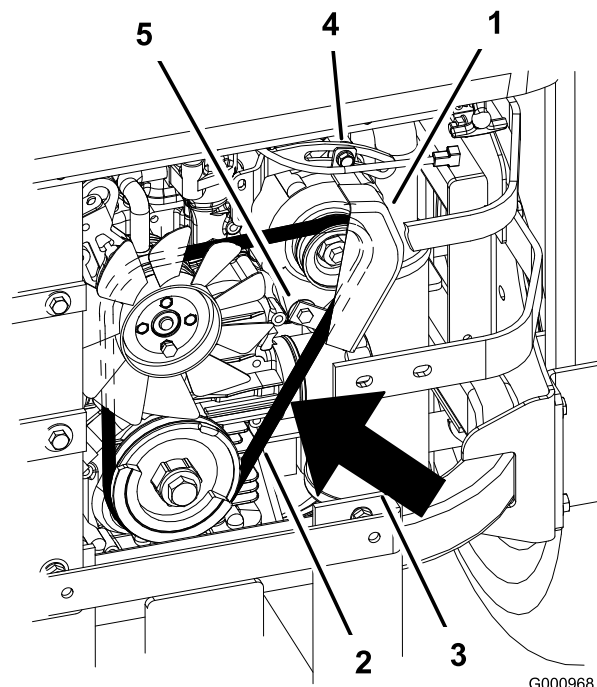

Figure 76
7. Loosen the bottom bolt and remove the upper bolt holding the alternator and cover (Figure 76).
9. Install a new belt around the pulleys and the alternator (Figure 76).
14. Tighten the bottom bolt and install the upper bolt holding the alternator and cover (Figure 76).
2. Adjust the alternator to the outside until there is 1/4 to 11/32 inch (7 to 9 mm) deflection in the belt between the engine and the alternator pulleys with 22.1 lbs of force (10 kgf) (Figure 76).
5. If the deflection is correct, tighten the bottom and upper bolt (Figure 76).